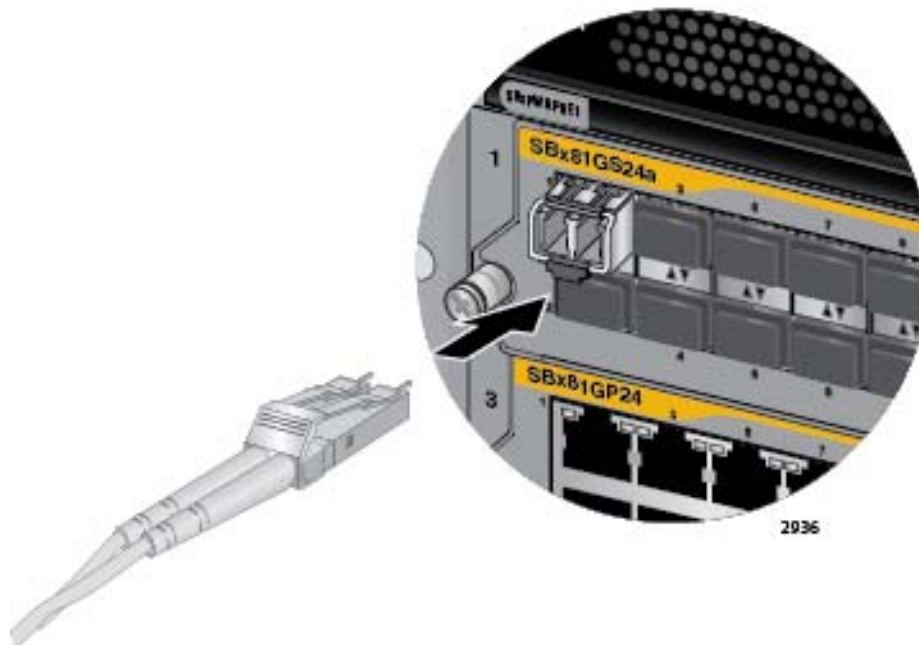

Figure 98. Attaching a Fiber Optic Cable to a Transceiver
6. Connect the fiber optic cable to the port on the transceiver, as shown in Figure 98. The connector should snap into the port.